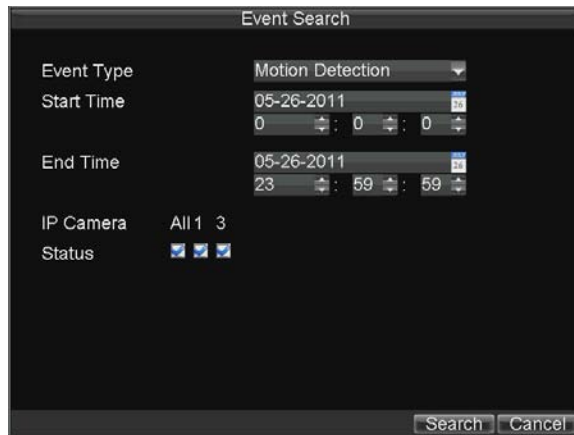

Figure5. Video Event Search Menu
2. Set the search parameters by selecting event type to search, Alarm Input/ Motion Detection and the start/end time (as shown in Figure 5).